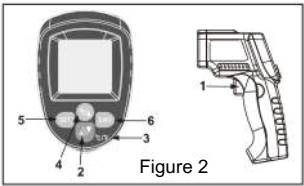

Figure 2
- 2. Diagram description: (Figure 2)